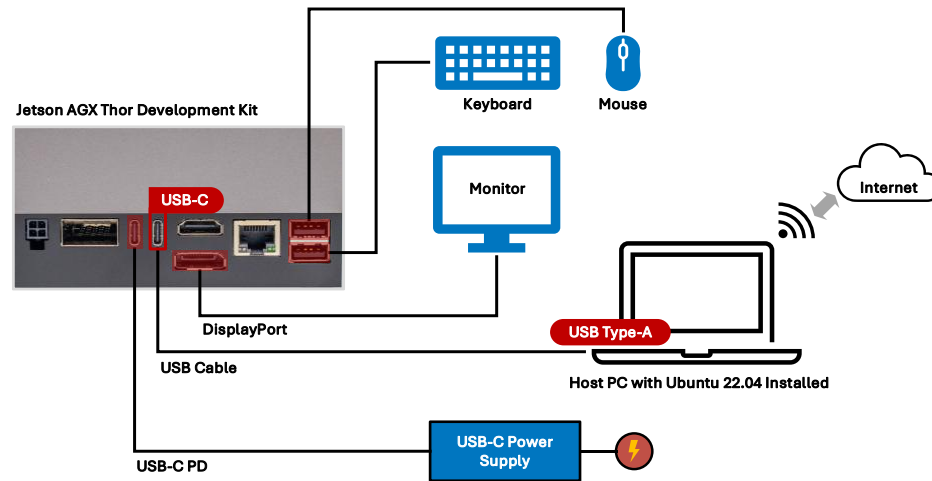

Figure 6.13. Hardware Setup for Flash Jetson AGX Thor
1. Ensure the hardware setup is done as shown in Figure 6.13. Also ensure the Ubuntu Host PC is powered up and the internet connection is enabled.